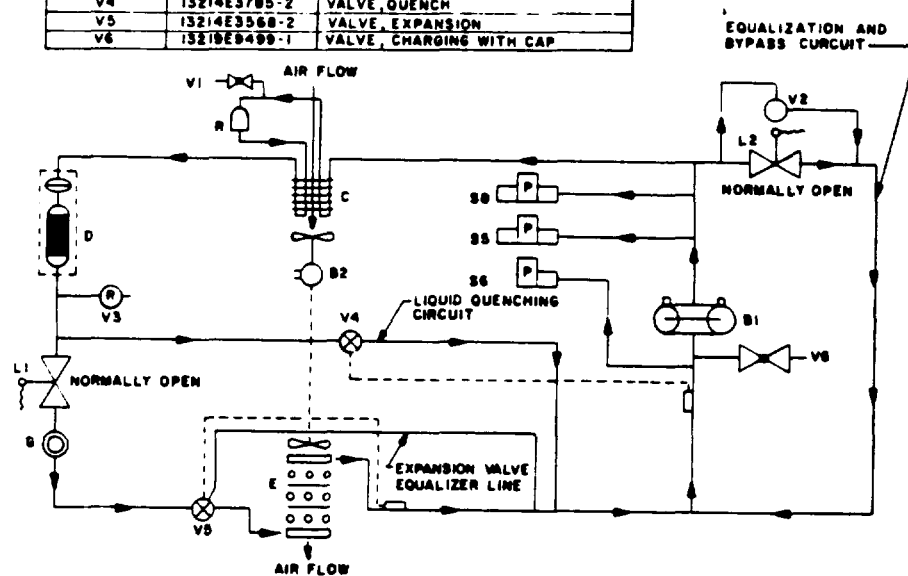

Figure 1-6. Schematic of Refrigeration Cycle.
a. THE REFRIGERATION CYCLE. The refrigeration system removes heat from a given area. See Figure 1-6 for a schematic of the refrigeration cycle.